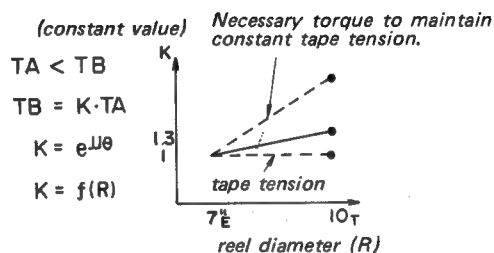

Fig. 9
- The relationship between the tension value (TA) at the entry point of the tension arm and the back tension (TB) is as shown in Fig. 9. Thus from the end of a 7-inch reel tape to the start of a 10-inch reel tape the mechanical tension will be about 1.3 (experimental value) times the variation that occurs.